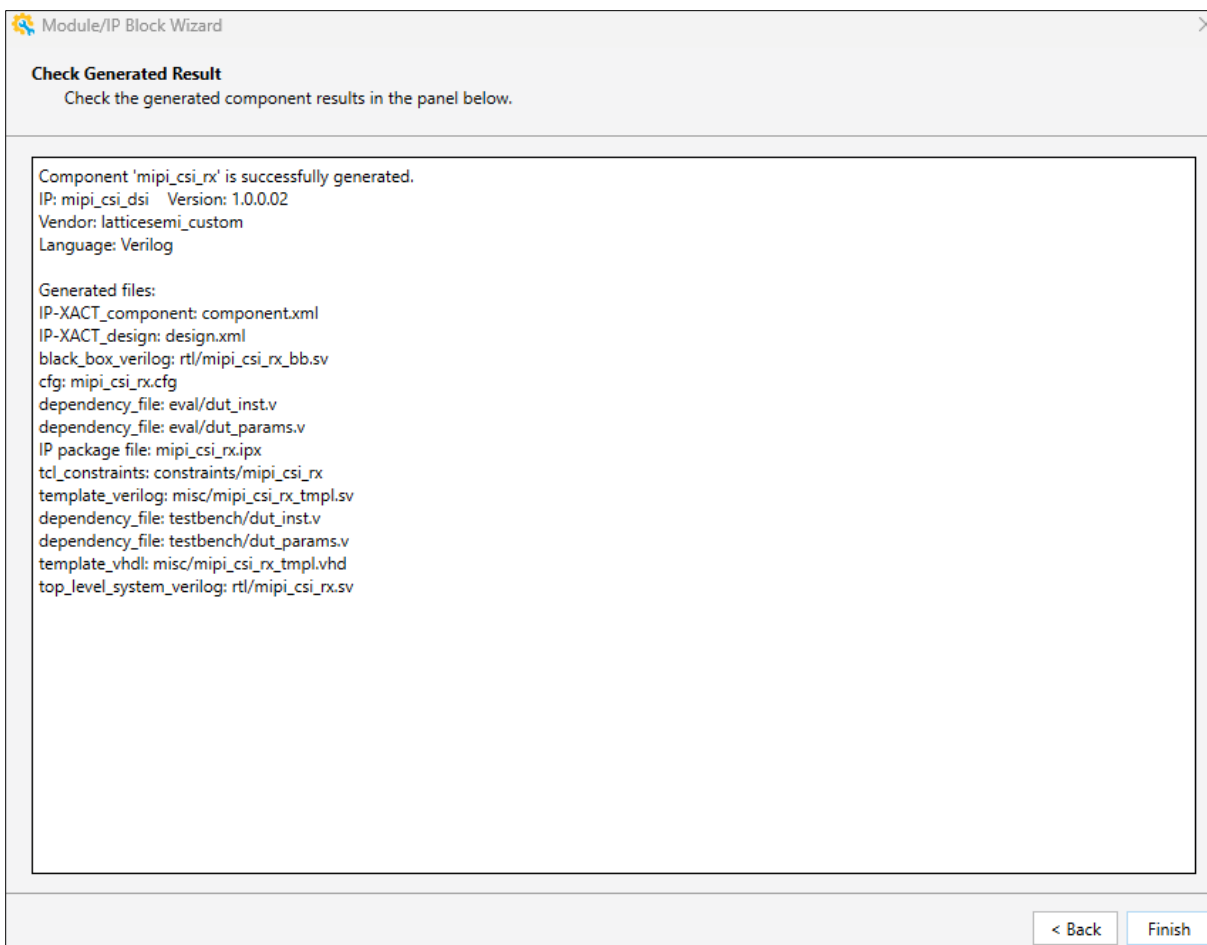

Figure 7.6. MIPI RX IP Check Generated Result Window
4. After the generation is completed, click **Finish** in the **Check Generated Result** window (Figure 7.6).